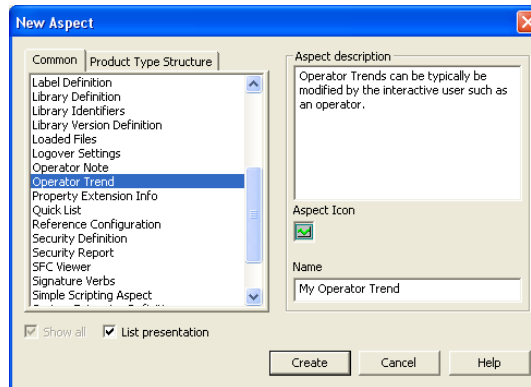

Figure 127. New Aspect - Operator Trend
3. Select Operator Trend in the list, see Figure 127, and give the new aspect a name.